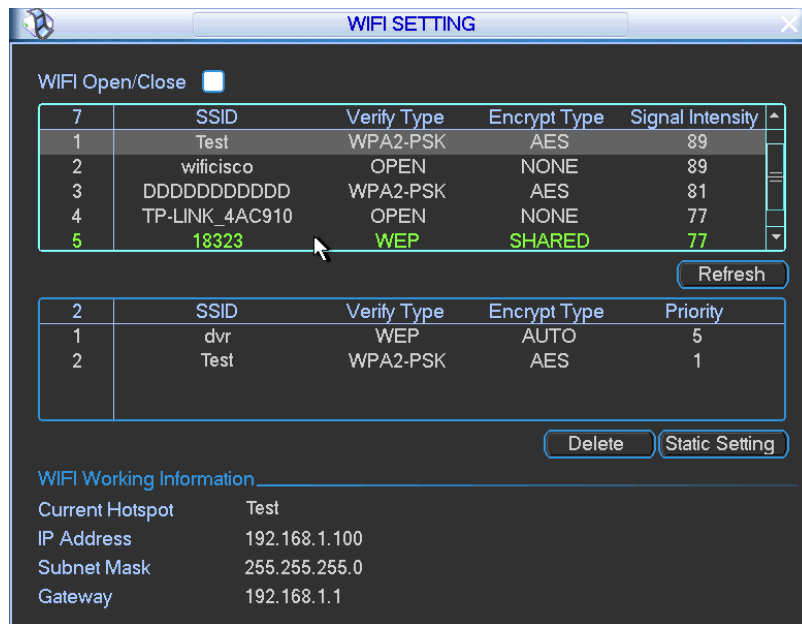

Figure 4-29
- WIFI working information: After system successfully connected to WIFI, you can view hotspot name, IP address, subnet mask, default gateway and etc. See Figure 4-29.